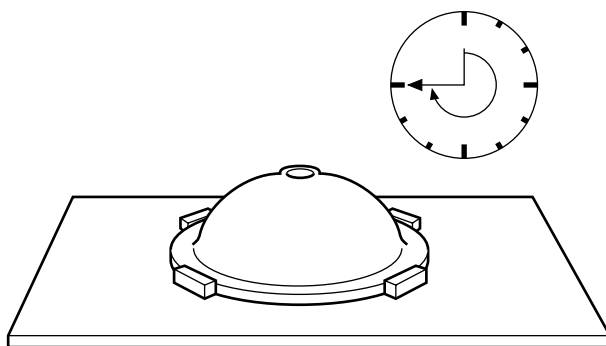

Figure 31
- Allow the Joint Adhesive to cure for 45 minutes (see Figure 31).